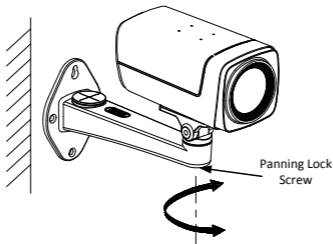

Figure 2-6 Panning
- 2). Loosen the panning lock screw, and adjust the panning angle of the camera up to 360° as shown in Figure 2-6.